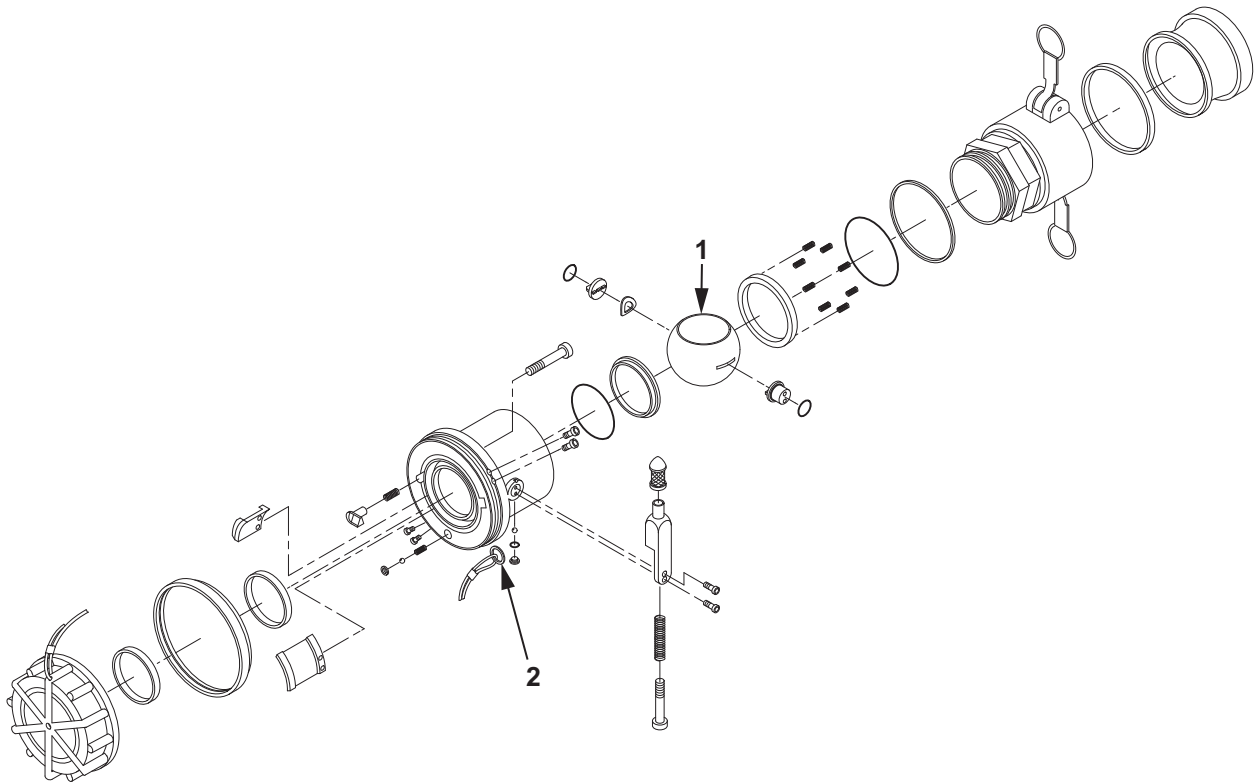

Figure 5. Valved Dry-Break Coupling Testing.
1. Wrap threads of quick disconnect coupling half adapter (Figure 5, Item 39) with teflon tape.
2. While holding the quick disconnect coupling half adapter (Figure 5, Item 39), turn the quick disconnect coupling half (Figure 5, Item 40) clockwise to install quick disconnect coupling half (Figure 5, Item 40) on quick disconnect coupling half adapter (Figure 5, Item 39).
3. Tighten quick disconnect coupling half (Figure 5, Item 40).
4. Install new gasket (Figure 5, Item 41) into quick disconnect coupling half (Figure 5, Item 40).
5. Install dust plug (Figure 5, Item 1) into quick disconnect coupling half (Figure 5, Item 40).
2. While the couplings are connected, rotate control arm (Figure 5, Item 1) to the open position and try to disconnect the couplings by rotating in a counterclockwise direction. If the couplings disconnect, then repair of the valved dry-break coupling assembly is required.
3. Close the control arm (Figure 5, Item 1) and disconnect the valved dry-break coupling assemblies by rotating the couplings in a counterclockwise direction.
6. With the control arm (Figure 5, Item 1) in the open position, apply pressure of 5 PSI (34.47 kPa) to the repaired valved dry-break coupling assembly.
10. Close the control arm (Figure 5, Item 1) and disconnect the repaired valved dry-break coupling assembly from the similar valved dry-break coupling assembly by rotating the couplings in a counterclockwise direction.
12. With the control arm (Figure 5, Item 1) in the closed position, apply pressure of 5 PSI (34.47 kPa) to the repaired valved dry-break coupling assembly.
15. Reduce pressure from the test system, remove repaired valved dry-break coupling assembly from the test system and install dust cap (Figure 5, Item 2).